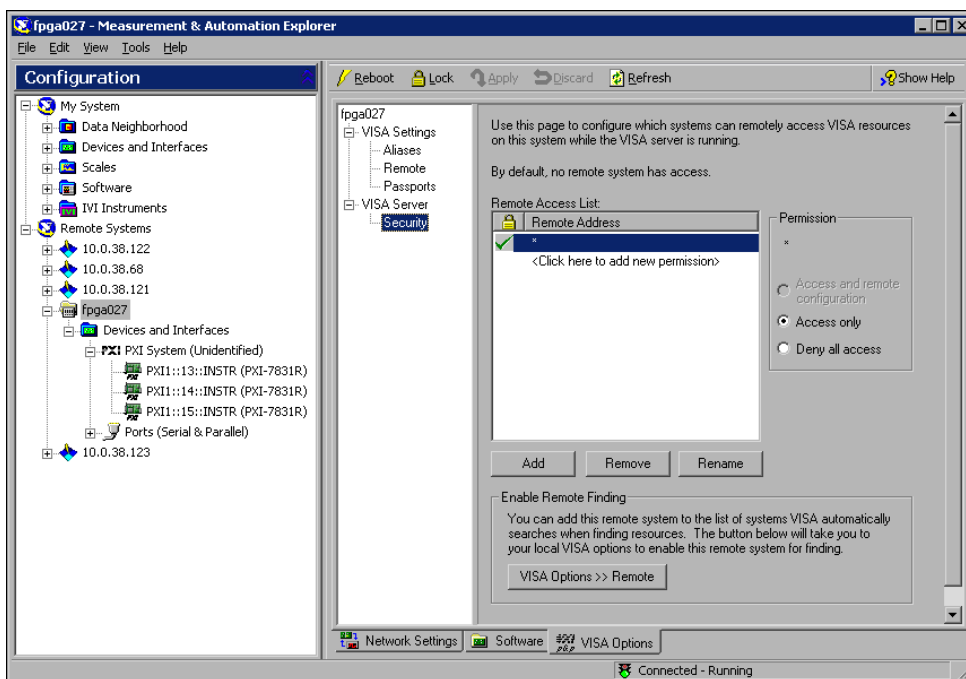
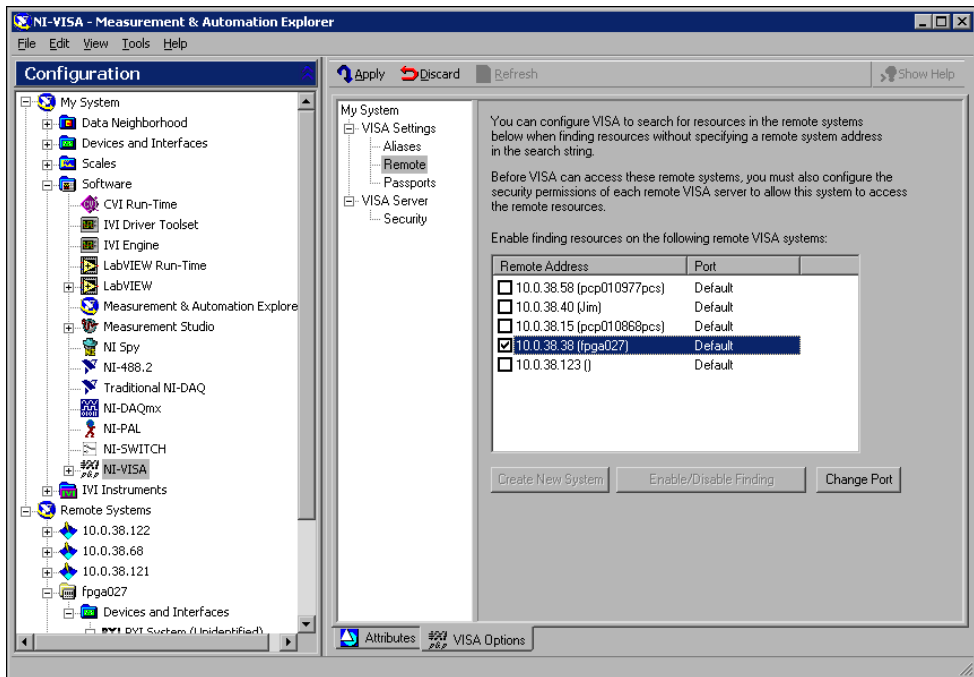

Figure 2. Setting Access Permissions for Remote Systems
Figure 3. Enabling Remote Finding on Specific Remote Systems
3. On the **VISA Options** page, select **VISA Server»Security** to view the **Remote Access List**, as shown in Figure 2.
1. If you are currently configuring access permissions for a remote system, click the **VISA Options >> Remote** button, as shown in Figure 2, to open the **VISA Options** page for the local VISA settings. Otherwise, select **Tools>>NI-VISA>VISA Options** to open the **VISA Options** page and select **VISA Settings>>Remote**, as shown in Figure 3.